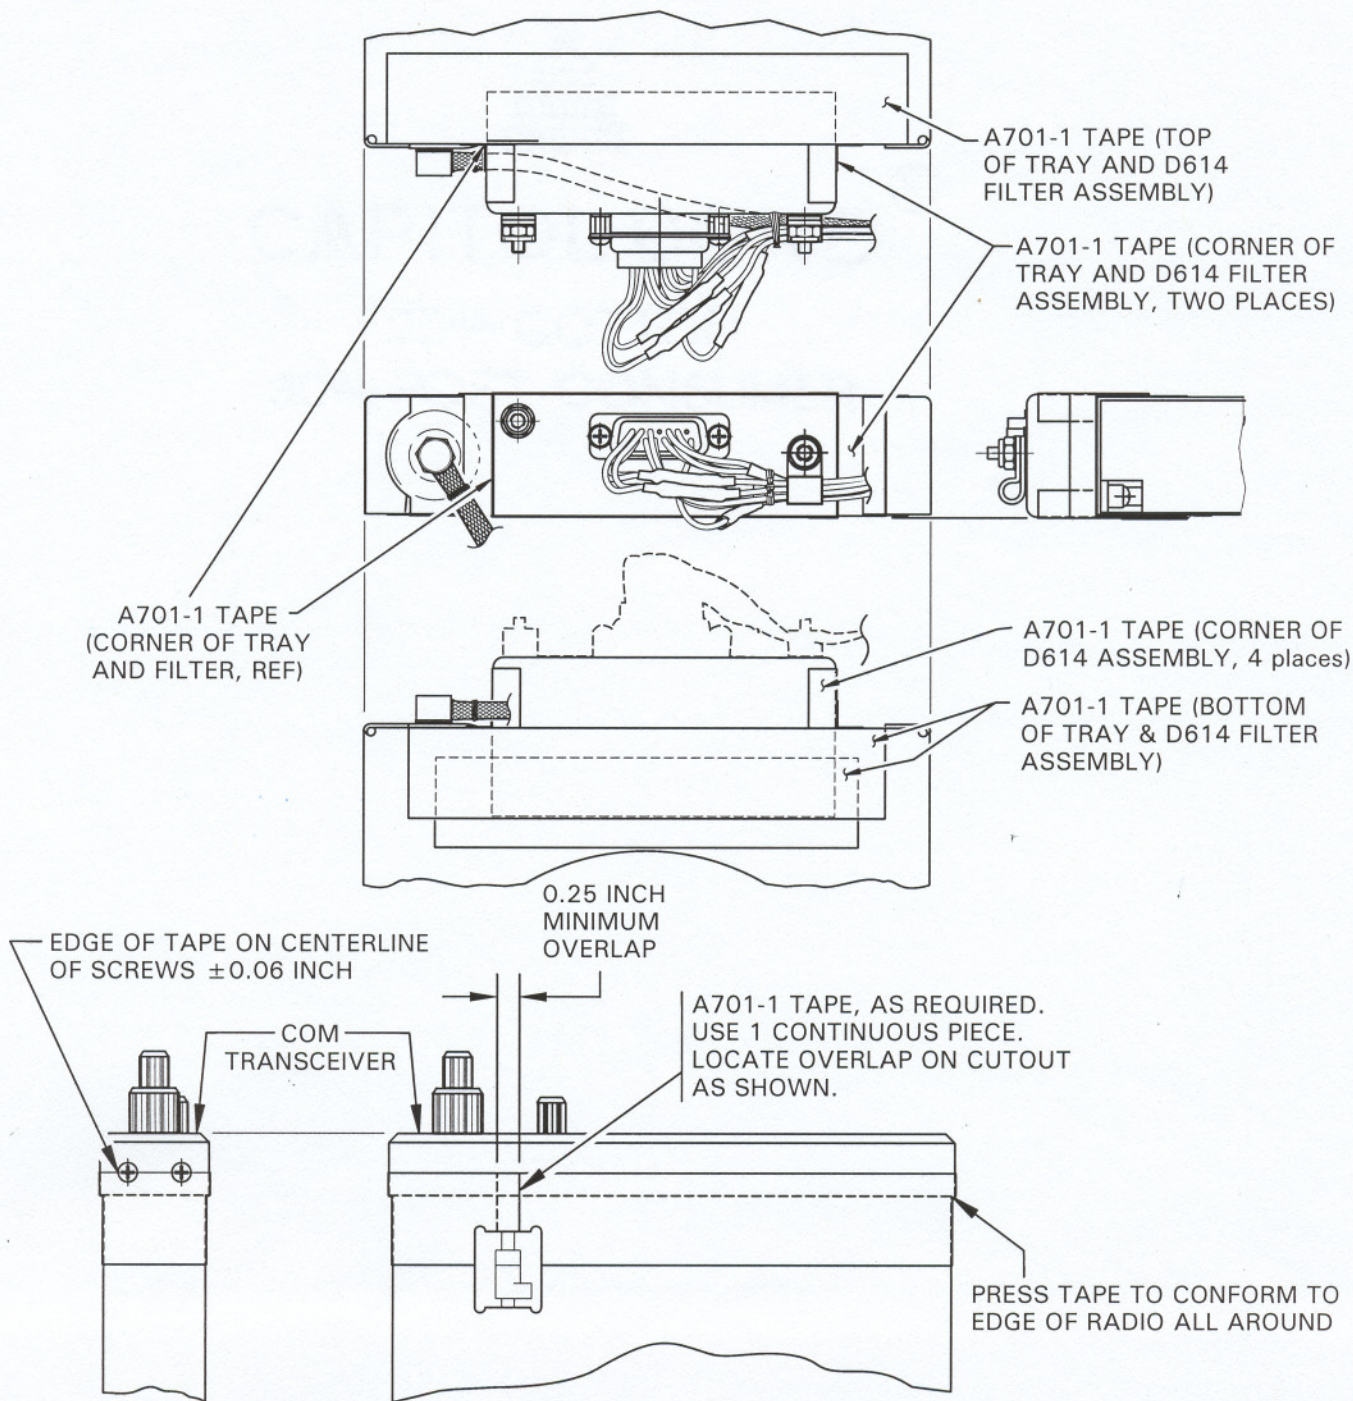

FIGURE 6 TRAY AND TRANSCEIVER SHIELDING
10. Refer to Figure 6. Apply A701-1 tape radio tray, filter, and COM transceiver as shown. Trim excess tape from opening around locking mechanism on transceiver.